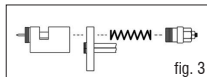

fig. 3
- 8) Carefully remove the fixing plate (Pos.16) complete with pipe holder and pipes (fig. 3)